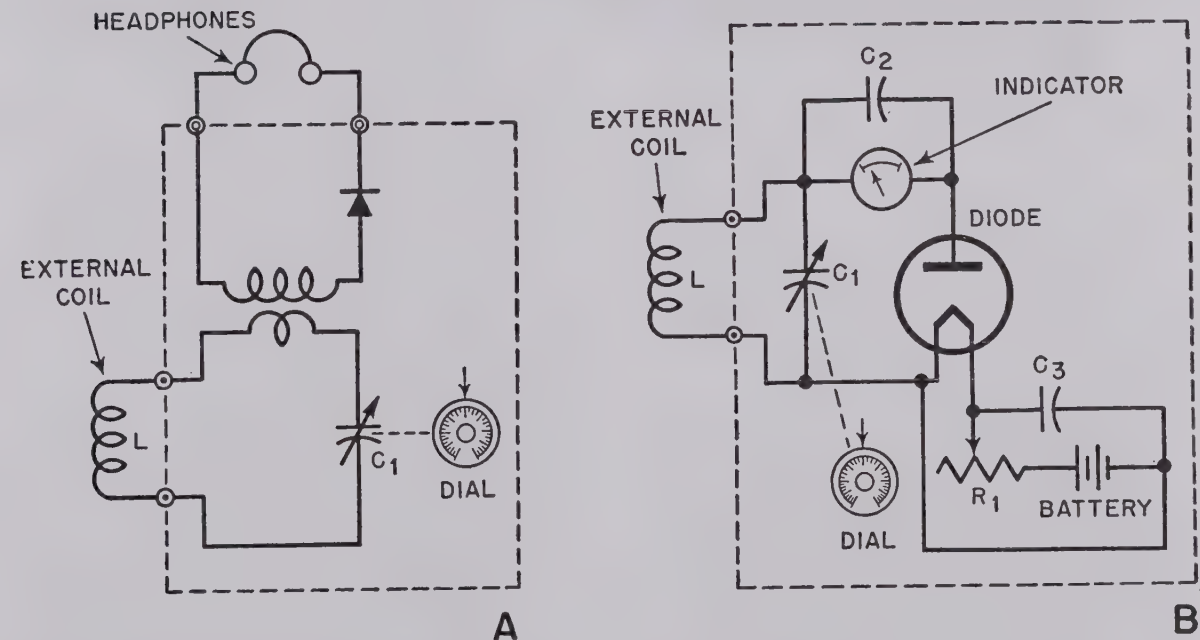

Figure 5. Circuit variations of absorption wavemeter.
- (4) In A of figure 5, the headphones of the absorption wavemeter are coupled to the wavemeter circuit by means of small pick-up coils and are used as the indicating device. Resonance is obtained when a *click* is heard in the headphones as C_1 is tuned slightly above and slightly below resonance. The crystal rectifier is used to obtain the direct current necessary to operate the headphones.
- (5) In B, a d-c meter movement replaces the headphones, a diode rectifier replaces the crystal, and the circuit operates as a simple vacuum-tube voltmeter. The diode is a filament-type tube operated by means of a small self-contained battery. Resistor R_1 is used to adjust the filament voltage to its proper value. Capacitors C_2 and C_3 bypass the r-f circulatory current around the ammeter and battery. The ammeter reads in direct proportion to the potential difference existing across tuning capacitor C_1 . This potential